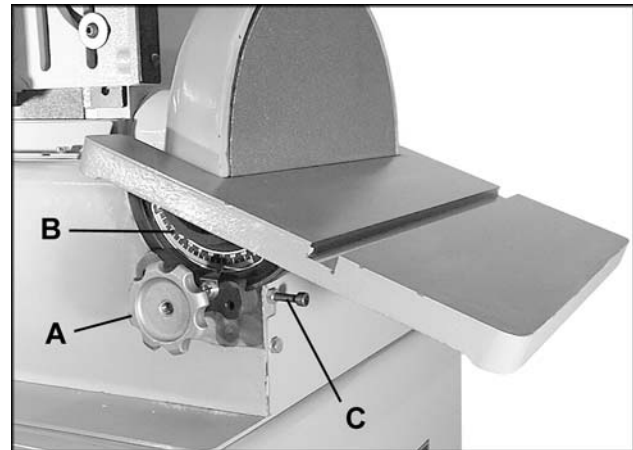
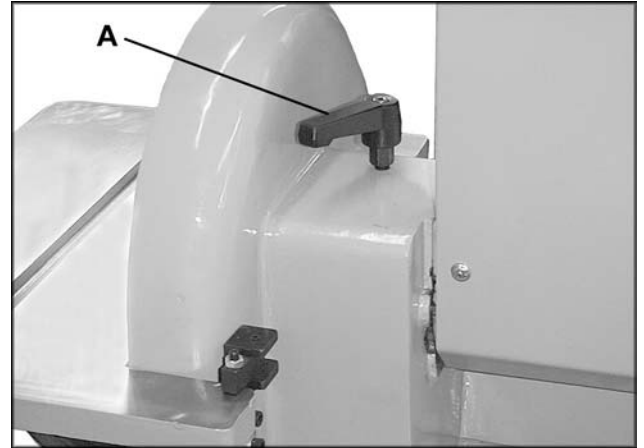
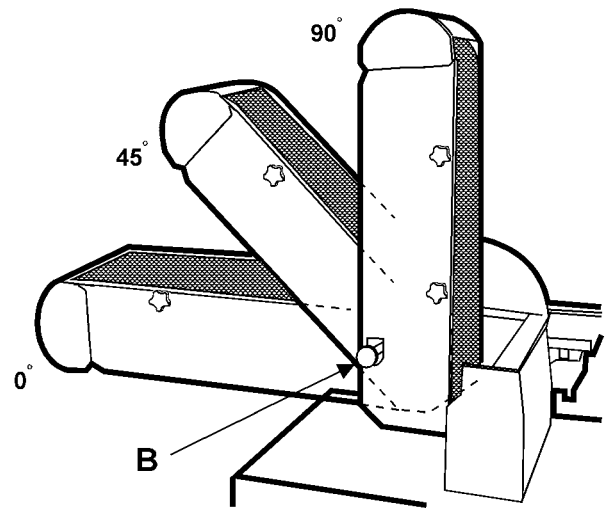

FIGURE 8
FIGURE 10
FIGURE 11
The sanding table may be adjusted from any angle from 15 degrees up to 45 degrees down. To adjust, loosen the lock wheels (A) on both sides and pivot table to the desired angle as shown on the trunnion scale (B). Re-tighten the lock wheel (A). See Figure 8.
Your sander is equipped with a shot pin arrangement to lock the belt arm in 0-degree, 45-degree, and 90 degree positions. To position the belt, loosen the locking handle (A) shown in Figure 10. Pull out on the shot pin (B), shown in Figure 11, and swing the belt arm into the desired position. Then release the shot pin. Check that the pin has gone into position by attempting to move belt arm back and forth. Re-tighten locking handle (A-Figure 10). When positioning the arm at any non-standard angle, make sure the locking handle is tightened securely.
NOTE: If the locking handle conflicts with the motion of the belt arm, pull up on the handle and turn it out of the way, as shown in Figure 10.
**Flat surface and contour sanding** can be done in the horizontal, 45-degree, and vertical position of the belt arm. To change position, pull out the shot pin and swing arm to the desired position, then release shot pin (Figure 11).
The idler slide, Figure 19, and table trunnion (B-Fig. 8), with good quality, non-hardening grease.
The table clamp screw (A-Fig. 8 on page 9) and belt arm shot pin (B-Fig. 11 on page 10) with SAE No. 10 oil.